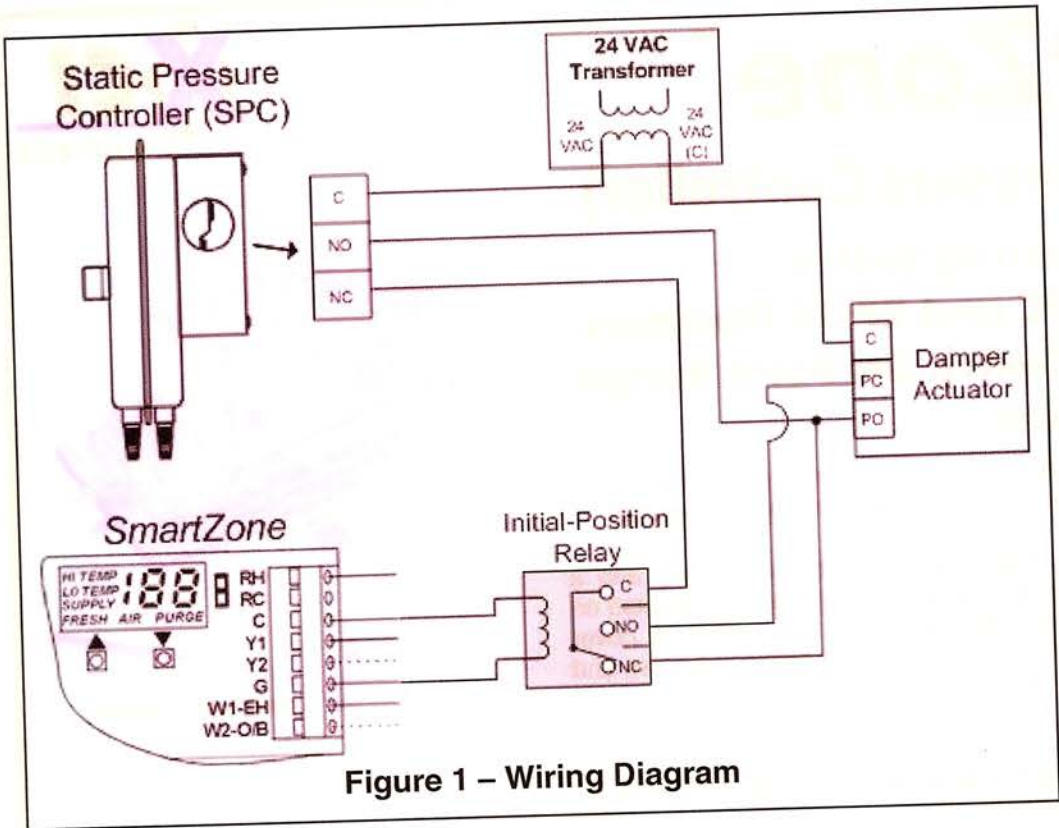

Figure 1 - Wiring Diagram
Each SPC includes a SPDT Relay that should be wired in conjunction with the SPC and Power-Open/Power-Close Damper as shown in Figure 1. This relay is included so that when there is NO CALL for the FAN on the equipment side of the SmartZone Controller the bypass damper will drive open. When a FAN call occurs the relay allows the SPC to operate normally.
Before pressure is applied to the diaphragm, the switch contacts on the SPC will be in the normally closed (NC) position. This snap switch has screw top terminals with cup washers. Wire according to Figure 1.